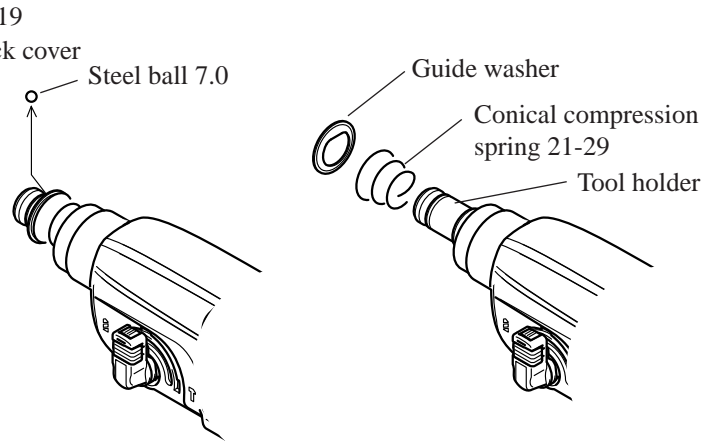

Fig. 1A
2. Take off ring spring 19. Then, the following parts can be disassembled from tool holder. See Fig. 1A.
3. Take off steel ball 7.0 with which guide washer and conical compression spring 21-29 are held. See Fig. 1A. Then, guide washer and conical compression spring 21-29 can be disassembled from tool holder. See Fig. 1B.
2. Assemble conical compression spring 21-29 and guide washer, and hold guide washer with steel ball 7.0. See Fig. 1B and Fig. 1A.
3. Assemble ring 21 and chuck cover to tool holder. And then, hold them with ring spring 19. See Fig. 1A.